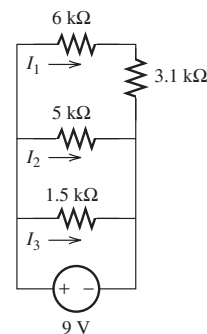

FIGURE P3.25 Circuit for Problem 3.25.
3.25 (H) Find $I_1, I_2,$ and I_3 in Figure P3.25.